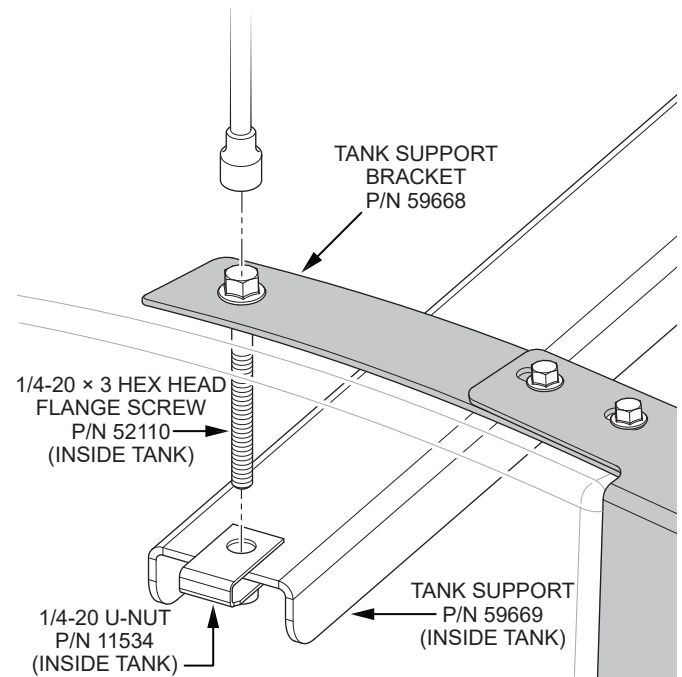

Figure 14. Install Tank Support (Rear)
- Using a 3/8" hex socket, partially tighten the **1/4-20 x 3 hex head flange screw (P/N 52110)** into the **1/4-20 U-nut (P/N 11534)** until the **tank support bracket (P/N 59668)** and **tank support (P/N 59669)** are held in place. **DO NOT** fully tighten these components at this time. See Figure 14.
9. Fully tighten the components from step 5 (Figure 14) until the **tank support bracket (P/N 59668)** and **tank support (P/N 59669)** are fastened securely to the rear of the water tank.